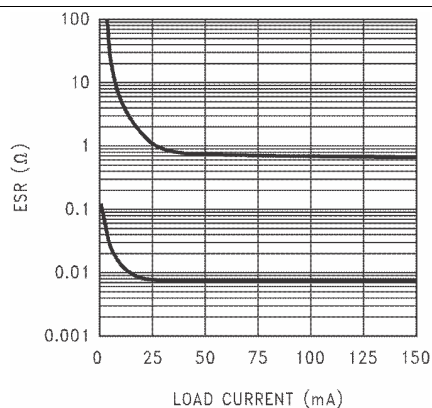
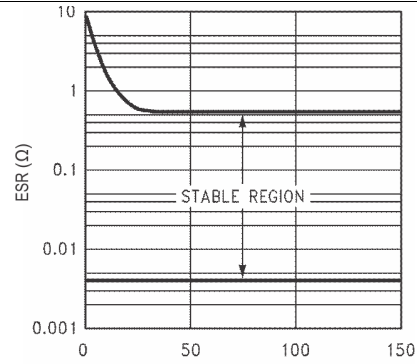

Figure 18. 2.2- μF Stable ESR Range for Output Voltage $\leq 2.3 \text{ V}$
Figure 20. 2.2- μF /3.3- μF Stable ESR Range for Output Voltage $\geq 2.5 V$
- ESR range: see Figure 18 through Figure 20